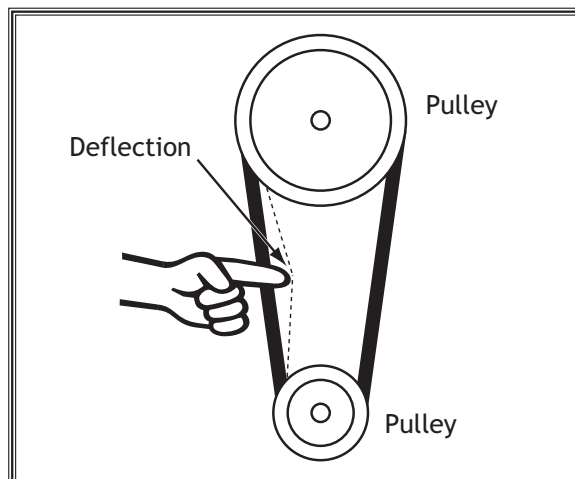

Figure 66. Checking belt deflection.
7. Push the center of the V-belt as illustrated in **Figure 66**, using moderate force. When tensioned correctly, the deflection should be approximately $\frac{1}{4}$ ".